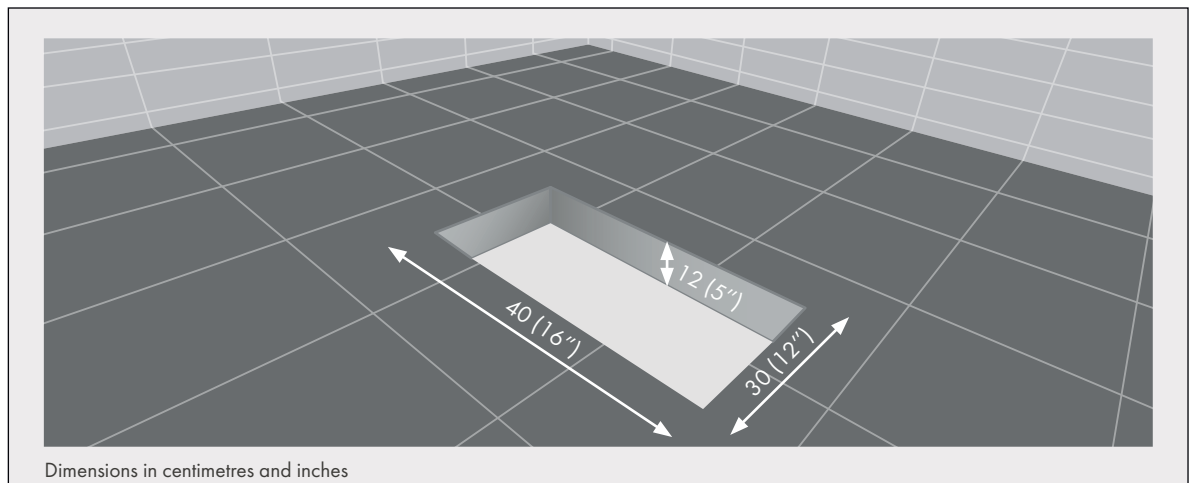

Fig. 2
- Caution: This tub model has limited space under the drain hole. Provide a drain well, suitably positioned, taking into account the tub's overall dimensions (figure 2).